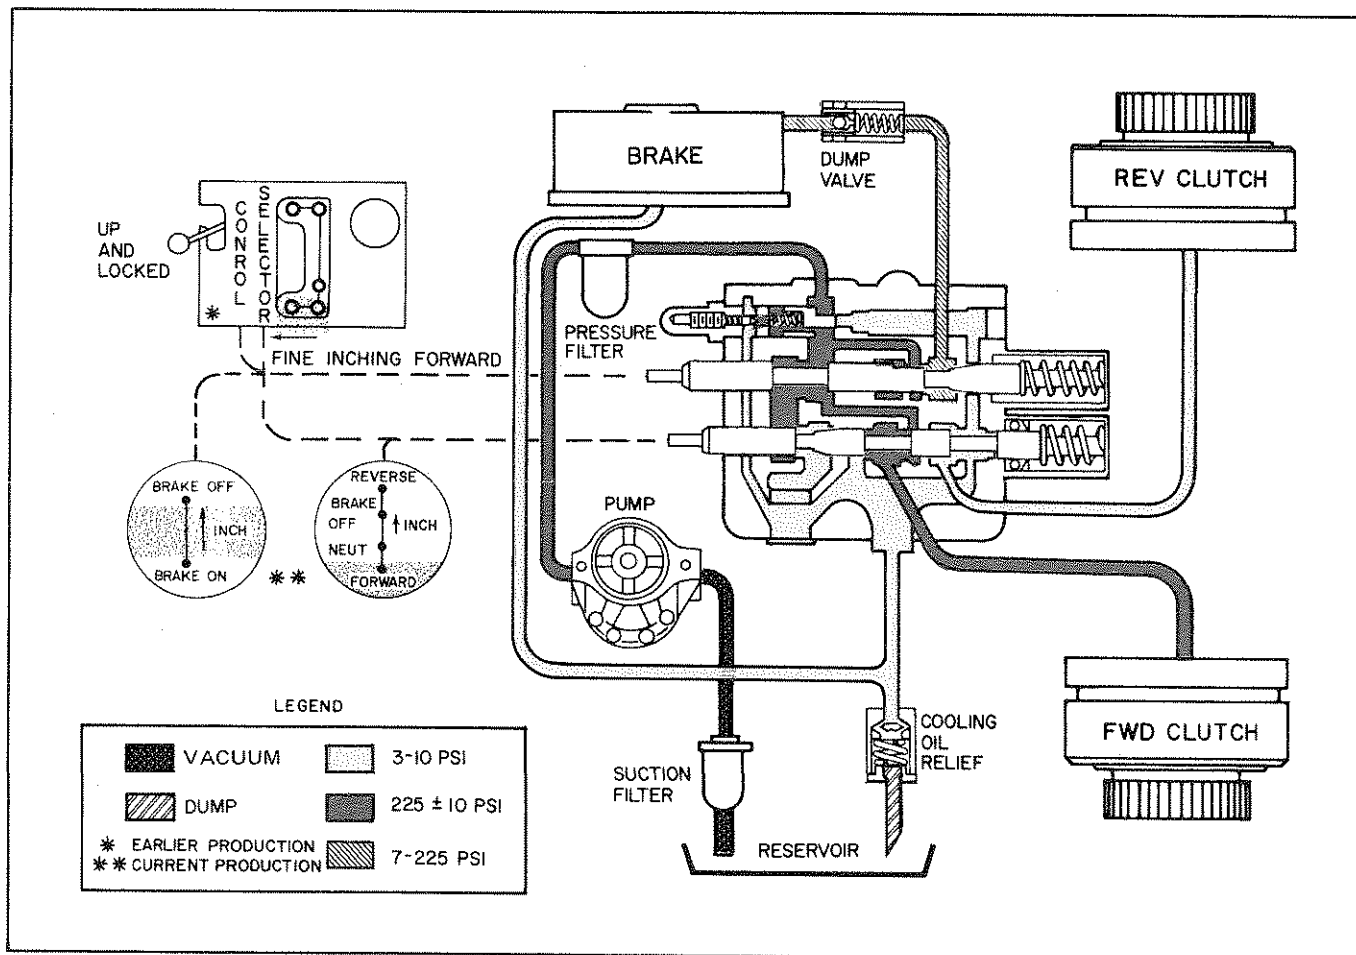

Figure 1-22. Flow Diagram, Forward, Fine Inching Control (Brake Slipping)
OPERATION (Brake Slipping). (See Figure 1-22.) On earlier production Handling Gear, the system is placed in FORWARD, Fine Inching Control by: (1) Having the Control Lever up and locked in place and (2) moving the Selector Lever toward the front of the handlever housing. On the current production Handling Gear this is accomplished by: (1) Holding the Selector Lever in the Forward position and (2) moving the Inching Lever toward the Brake-Off position. When the Selector Lever (earlier production) is moved toward the front of the handlever housing or the